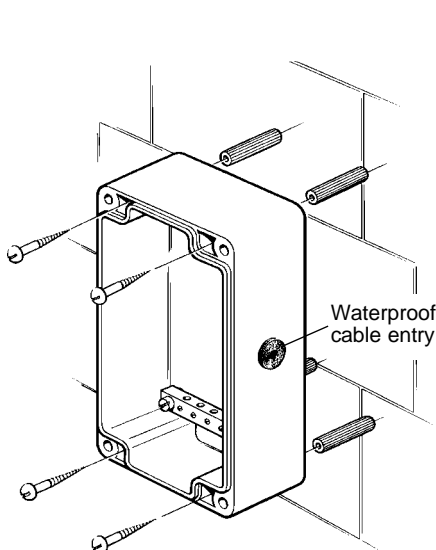

Fig. 1
1. Decide on the most convenient cable entry. Remove the front cover by taking out the four securing screws and drill the required hole in the side or back of the test point. Fit a suitable waterproof cable entry (Figure 1).